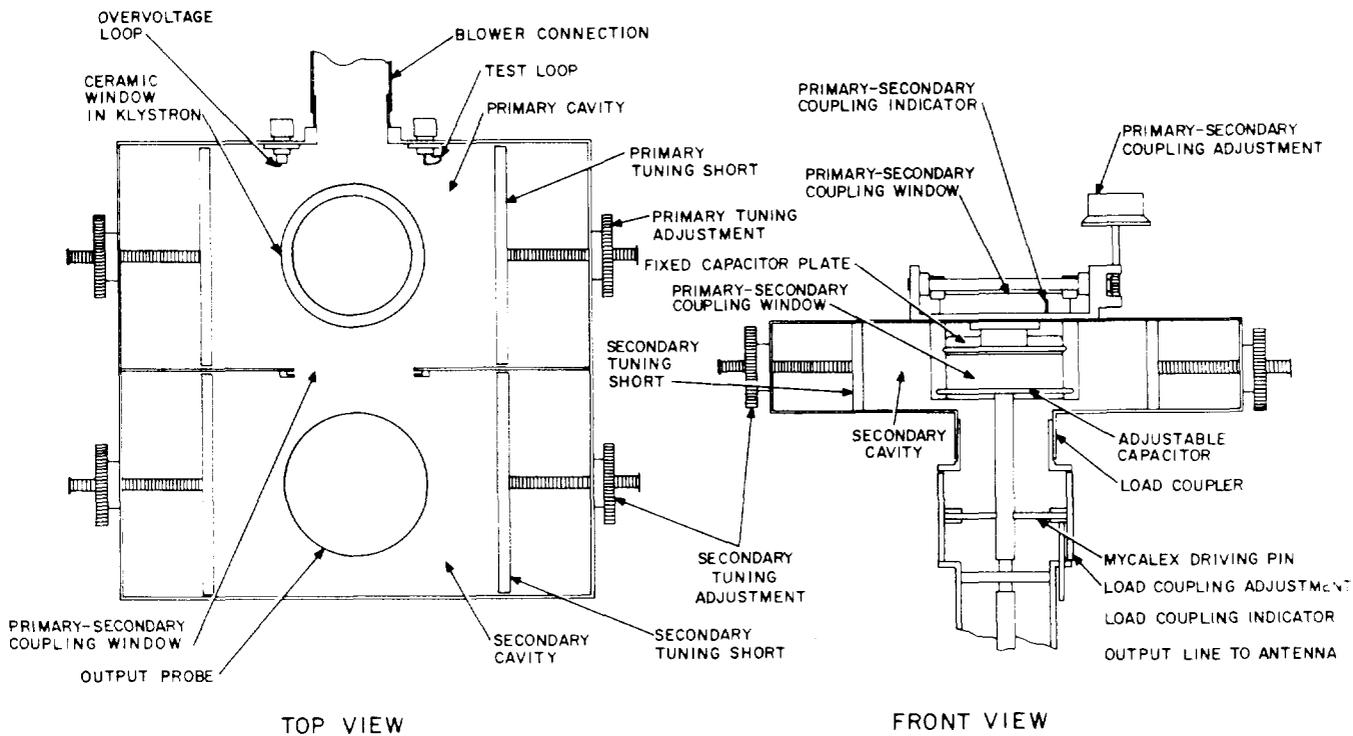

Fig. 14—Output Cavity Assembly
D. Replacement of Mycalex Driving Pin in Output Load Coupler (Fig. 14)